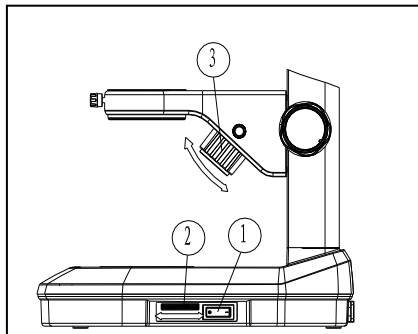

Fig 2
2. Open power switch ① (Fig 2), transmitting light will be bright.
3. Rotating down illumination knob ② (Fig 2) to adjust light intensity.
4. Rotating the up illumination ③ for adjusting the light position.